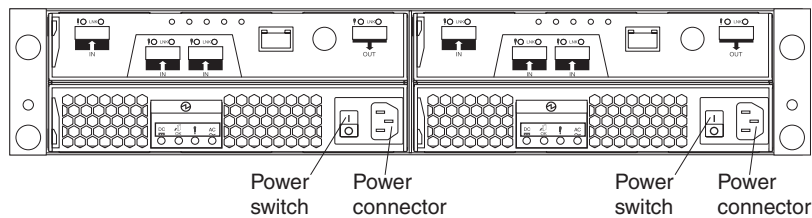

Figure 49. Power-supply switches and connectors for the DS3400
5. Turn on both ac power switches on the rear of the storage subsystem. Figure 49 on page 58 shows the locations of the ac power switches on the DS3400.